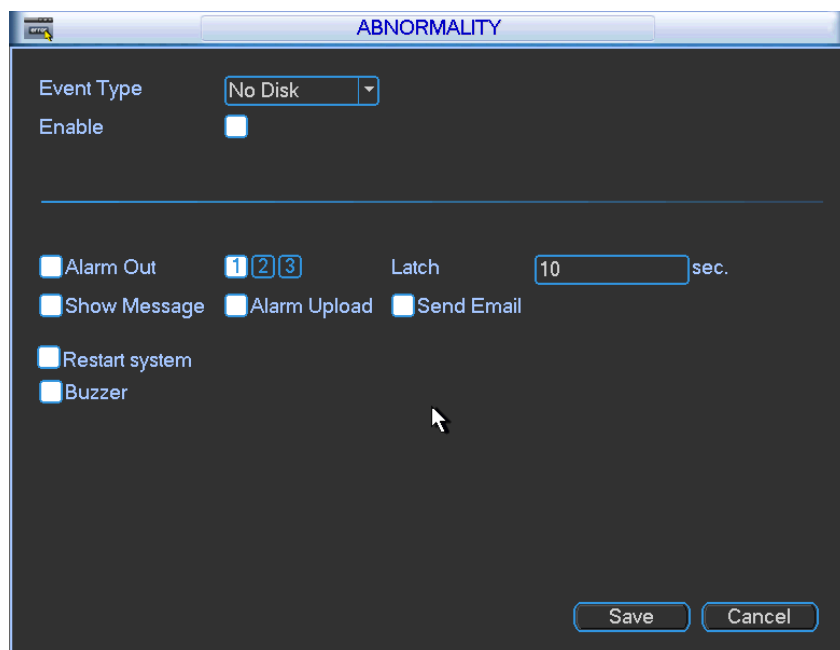

Figure 4-81
- Alarm set: Click alarm set button, the interface is shown as below. See Figure 4-81. (This interface is just like the abnormality setup). Please refer to chapter 4.8.2 for detailed information.